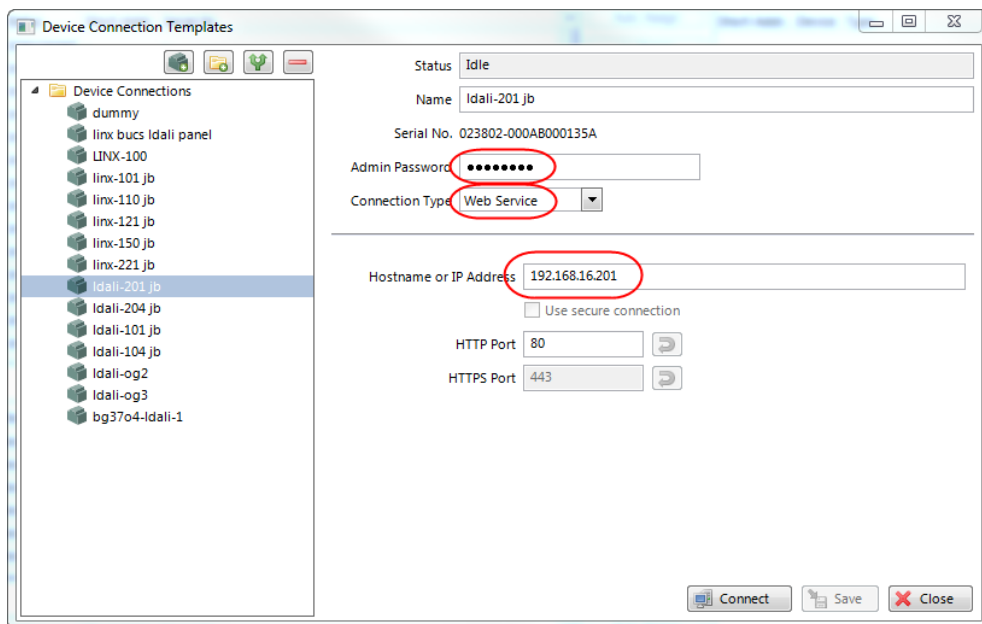

Figure 30: LINX Configurator software, Connection Dialog.
2. In the Connection dialog (see Figure 30) choose connection type “Web Service”, enter the IP address or hostname of the L-DALI and the devices “admin” password. The default “admin” password is ‘loytec4u’ (older firmware versions used ‘admin’).